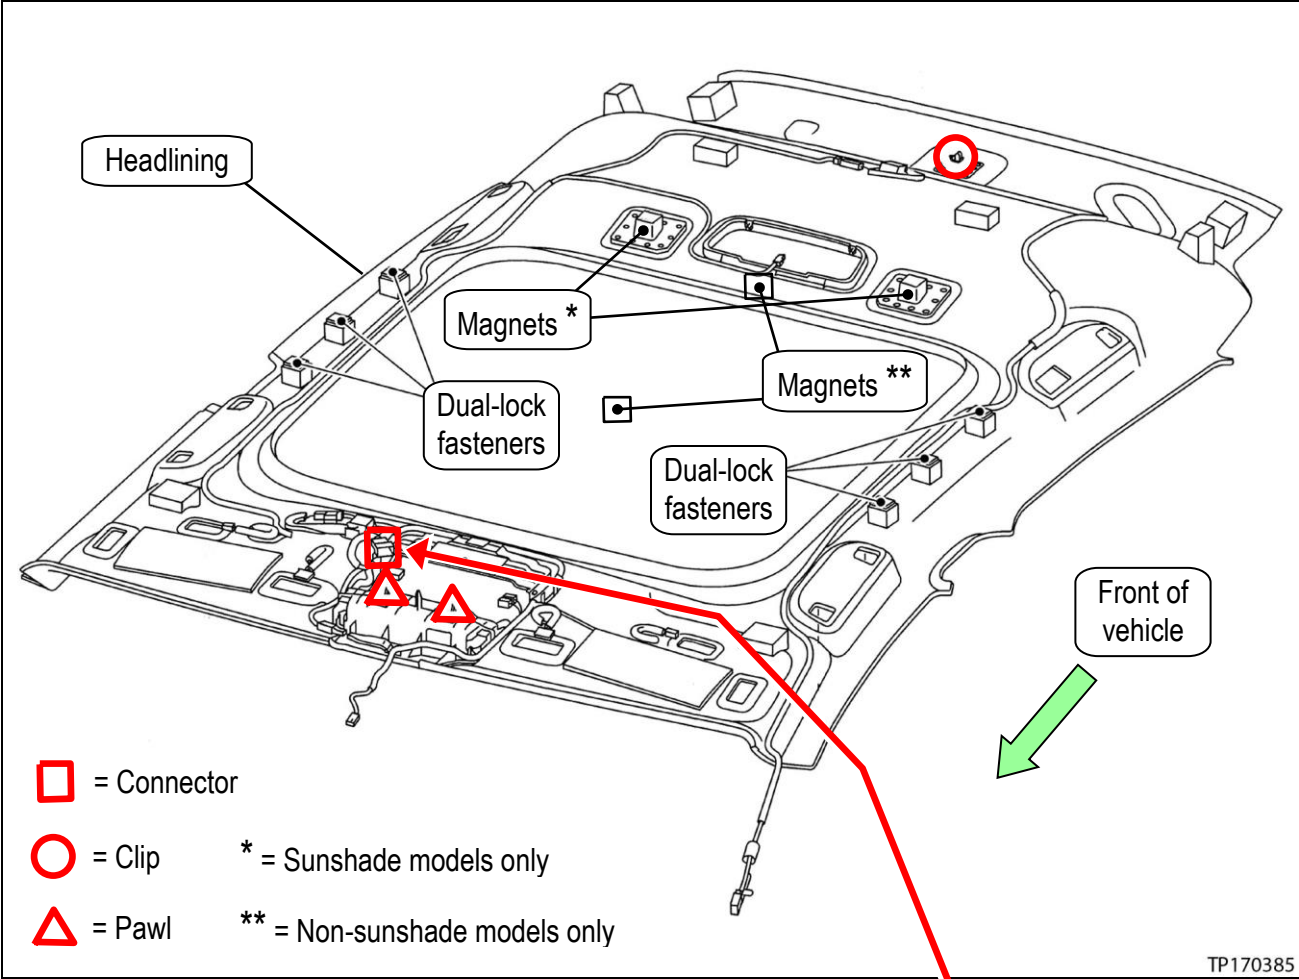

Figure 25
- See previous page, Figure 25, for magnets location.